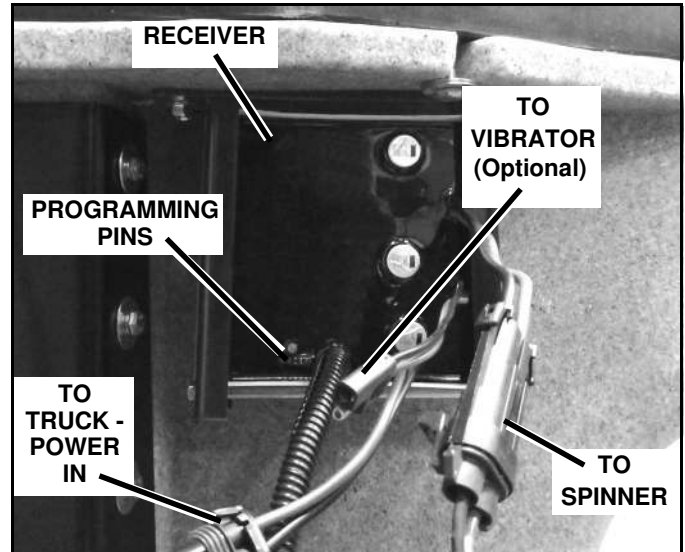

Figure 1-6
2. Secure the receiver by driving (2) 5/16" self-drilling screws thru the holes in the bracket and into the hopper.
3. Slide the receiver into the bracket with the 6-Pin in circuit programming pins located on the bottom. Secure the receiver with (1) 1/4" x 6" hex head cap screw and (1) 1/4" lock nut (See Figure 1-6).
4. Plug the spreader spinner motor harness and vibrator harness (optional) into the mating plugs on the receiver (See Figure 1-6).